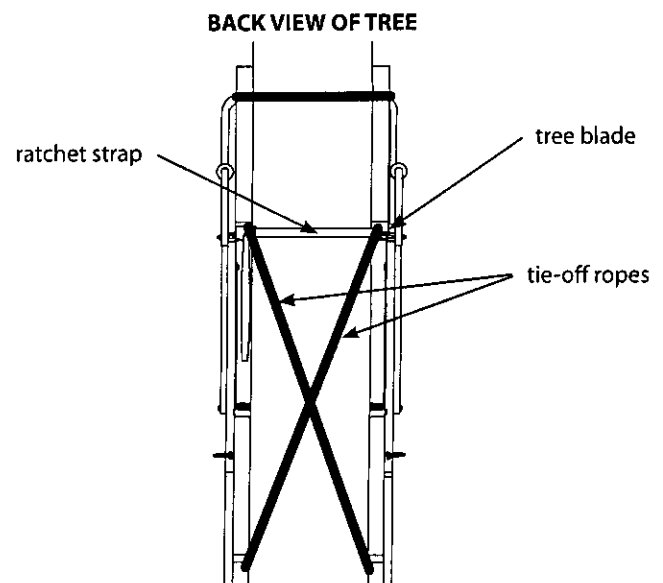

Figure 1
- a. Position (2) people at the platform end of the ladder, lift the platform end, and continue uprighting by walking toward bottom end of ladder and moving hands along ladder legs. **Stand ladder up against chosen straight tree on dry, level ground.** Use caution when ladder comes over center against tree.
- e. Wrap the previously attached 15' tie-off ropes hanging down from platform, around the back side of tree in opposite directions of each other. Pull the ropes snug and tie them to the ladder at the stabilizer bar height location. This ground level ladder-to-tree attachment will prevent the ladder from pulling away from the tree while ascending to top for final ratchet strap attachment. The same holds true when ladder removal is necessary. **SEE FIGURE 1.**